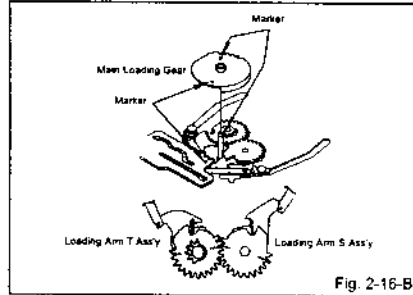

Fig. 2-16-B
### 2-16: LOADING GEAR S/T ASS'Y (Refer to Fig. 2-16-A)
- When you install the Loading Arm S Assy, Loading Arm T Assy and Main Loading Gear, align each marker. (Refer to Fig. 2-16-B)